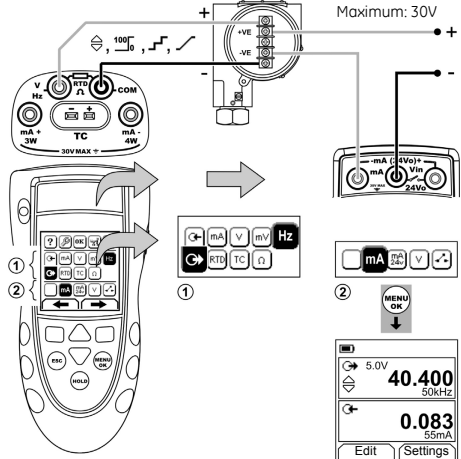

Figure 10: Example configuration - Transmitter calibration with external loop power
1. Connect the instrument (Figure 10/11) and, if necessary, adjust the *Set Up* (Table 1).